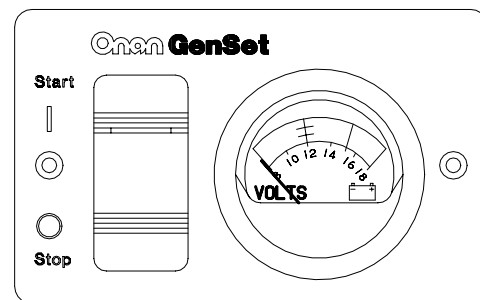

FIGURE 12. REMOTE SWITCH / DC VOLTMETER
- Remote switch / status lamp and DC voltmeter (Figure 12).